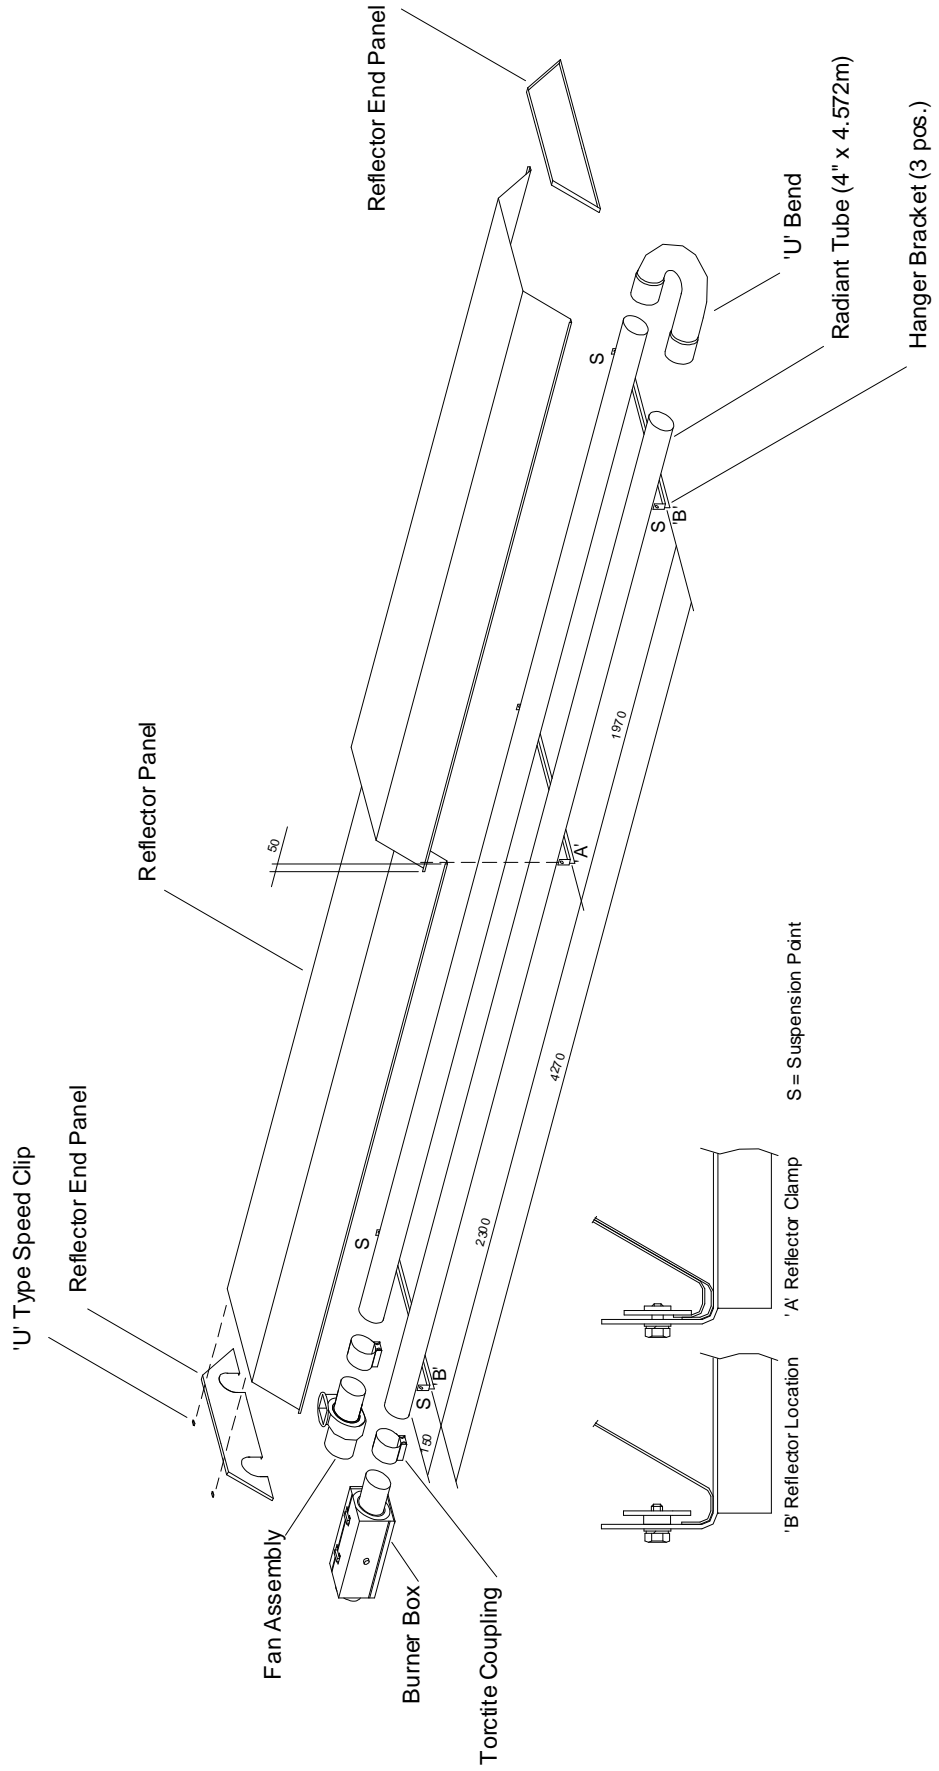

Fig. 16
- 4.3.2 Assemble the three Hanger Brackets to the Radiant Tubes using two U bolts per bracket (from fastenings pack) and position along the Radiant Tubes as shown in Fig 16. Tighten the nuts sufficiently to retain the Hanger Brackets. Do not over tighten.
- 4.3.5 Place the two Reflector Panels onto the Hanger Brackets and position to provide a 50mm overlap at the centre, arranged equally about the centre Hanger Bracket. Clamp the two Reflector Panels to the centre Hanger Bracket using two retainers and M6 setscrews and washers (fastening pack). Screw the remaining (4) retainers to the two outer Hanger Brackets to provide location for the Reflector Panel ends as shown in Fig. 16.
4.3.6 Position the Reflector End Panel (notched) over the Radiant Tubes and into the end of the Reflector Panel with the End Panel flange flush with the end of the Reflector. Secure the Reflector End Panel to the Reflector Panel by use of 6 - U type speed clips provided (fastenings pack); 2 clips per facet of Reflector Panel, as shown in Fig. 16.
4.3.7 The appliance should now be raised and suspended from previously fixed chains or drop rods as detailed in section 3.1, at suspension points indicated in Fig. 16. Rope or webbing slings should be used when lifting from above. If using a forklift to position the appliance, ensure that the appliance is balanced on the forks prior to lifting.